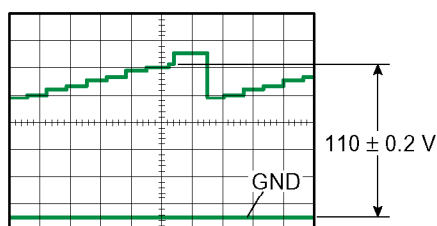

Fig. 4-1
- Adjust the Increment Button (+) or Decrement Button (-) so that G Pedestal becomes 110 ± 0.2 V as shown in Fig. 4-1.